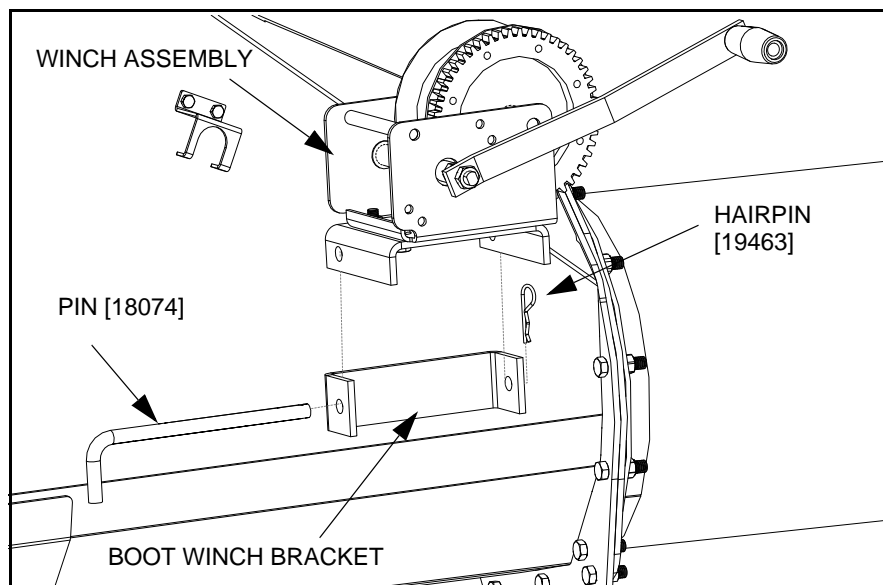

Figure 3.42 Connecting Manual Winch to the Boot
4. Install winch and winch bracket assembly to auger boot (opposite to side of hopper operation) with one mount pin and a hairpin (Figure 3.42).